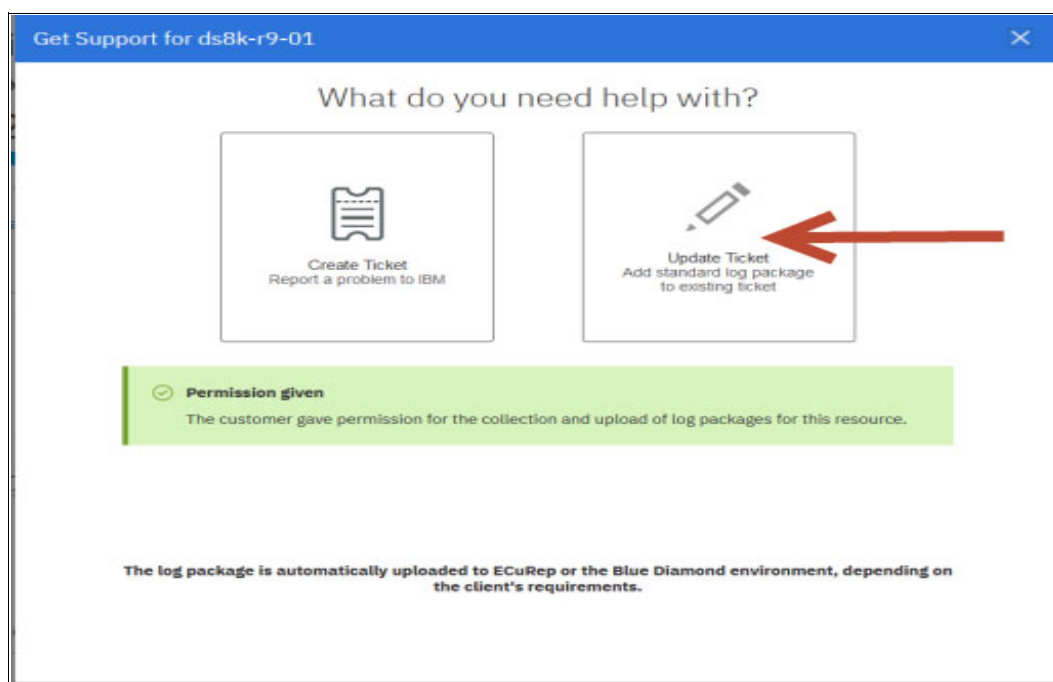

Figure 12-27 IBM Storage Insights: Update Ticket
2. In the window that is shown in Figure 12-27, click **Update Ticket**.